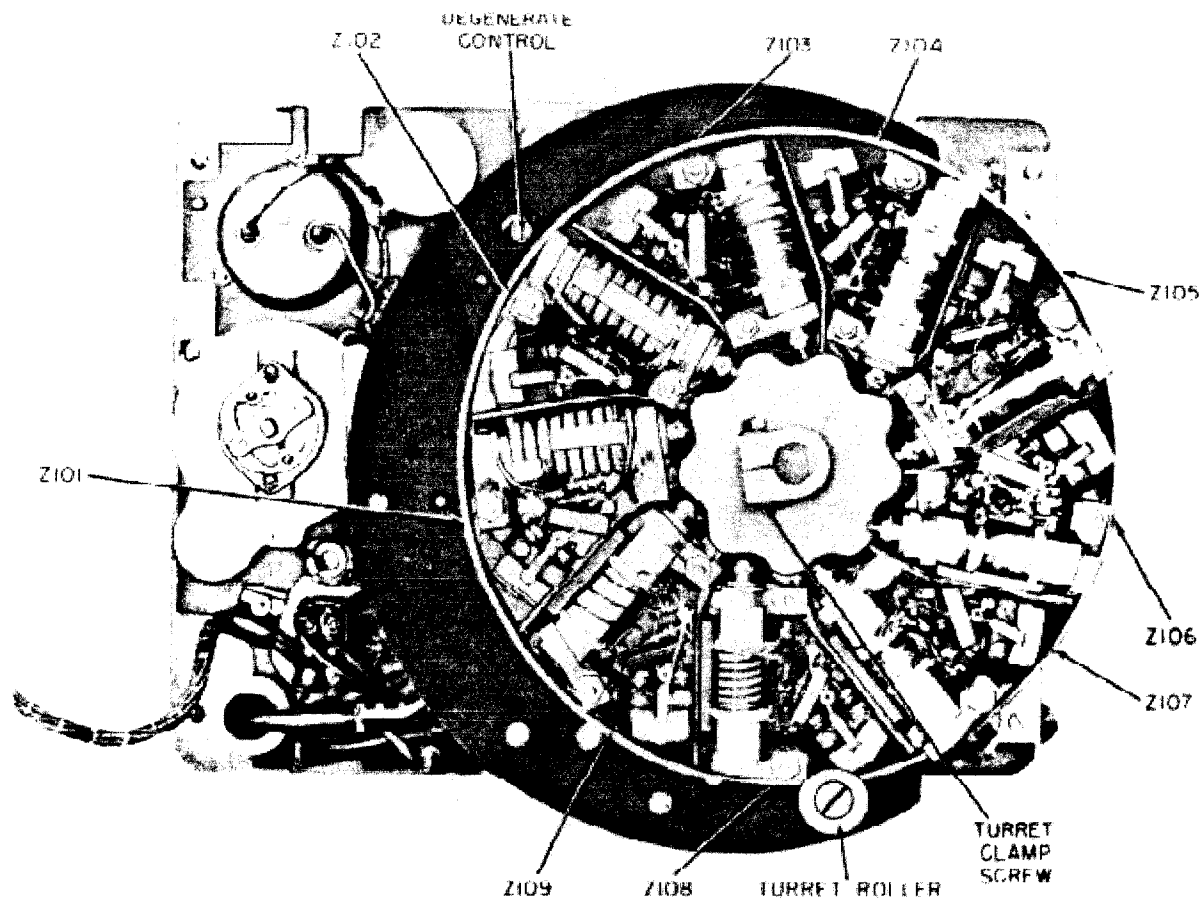

Figure 7-5. Oscillator Coil Turret
(1) Remove the signal generator from its case. See paragraph 7.
(2) Remove the RF shield assembly. See paragraph 7.
(3) Position the signal generator chassis face down and allow it to rest on the front panel handles.
(4) Loosen turret clamp screw. (See figure 7-5.)
(5) Remove turret roller and screw. (See figure 7-5.)
(6) Lift up turret assembly.
### 15. READJUSTMENT OF FREQUENCY CALIBRATION. (See figure 7-5.)